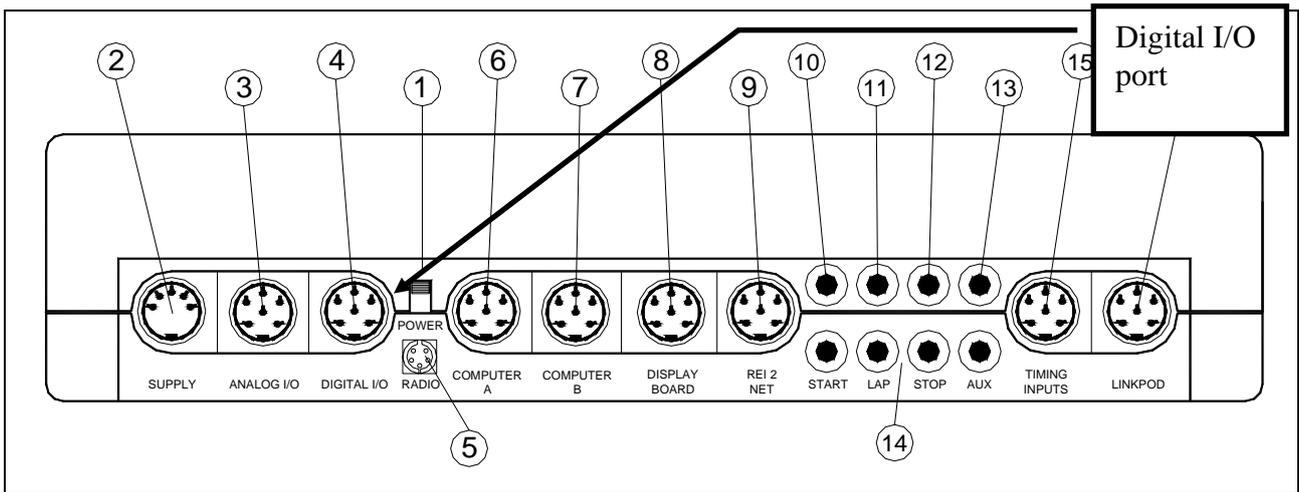

Fig. 1 – Back of REI2 stopwatch (from User Manual)
The  $\mu$ Sem signals light must be connected to the Digital I/O port on the back of REI2 (see ref. 4 in Fig. 1) using the dedicated cable \$CAB097.